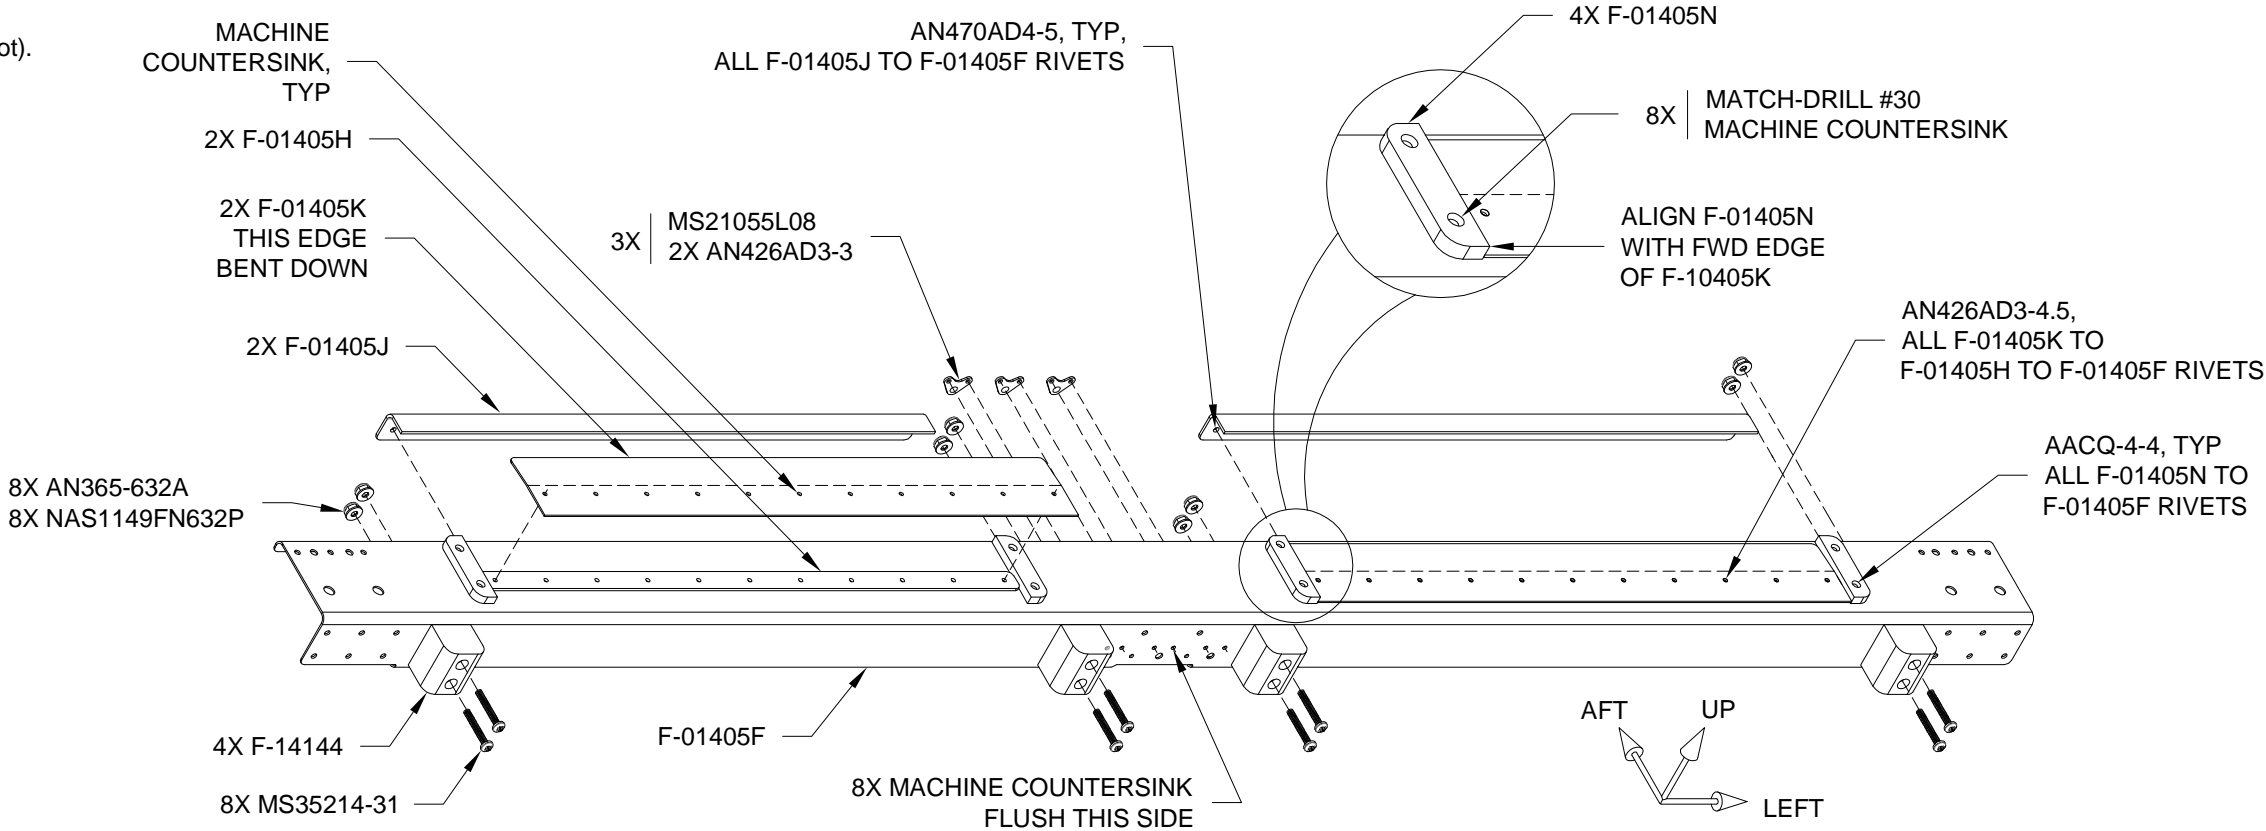

FIGURE 2: BRACE
Step 12: Rivet the seat back adjustment guides to the brace as shown in Figure 2.